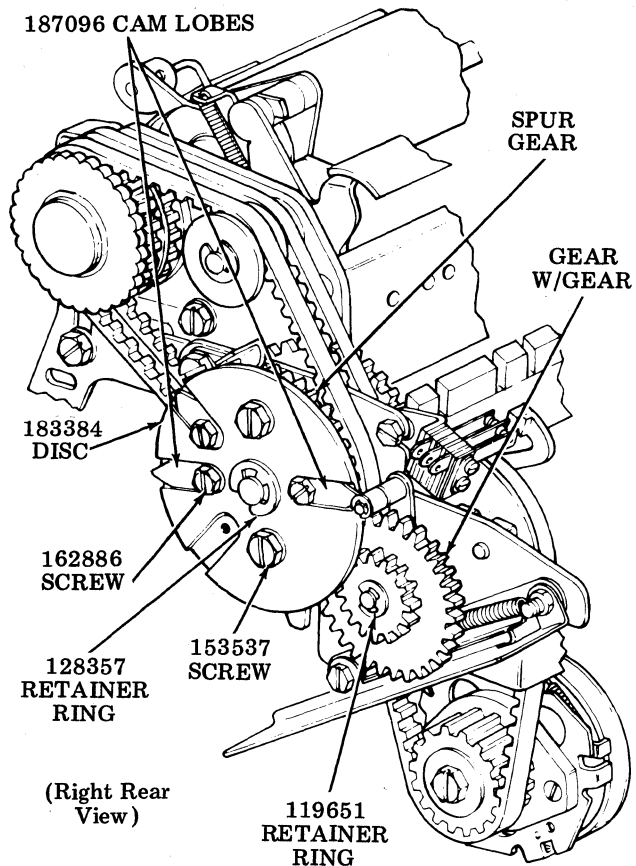

Figure 4 - 183877 Through 183883 Modification Kits for Various Lengths of Form Out
2.16 Various form lengths can be accommodated on the sprocket feed typing units by changing the cam lobes, the spur gear, and the gear w/gear on the form-out mechanism (Figure 4). In addition to the cam lobes and gears, the 183877 through 183883 kits include two washers and one screw.